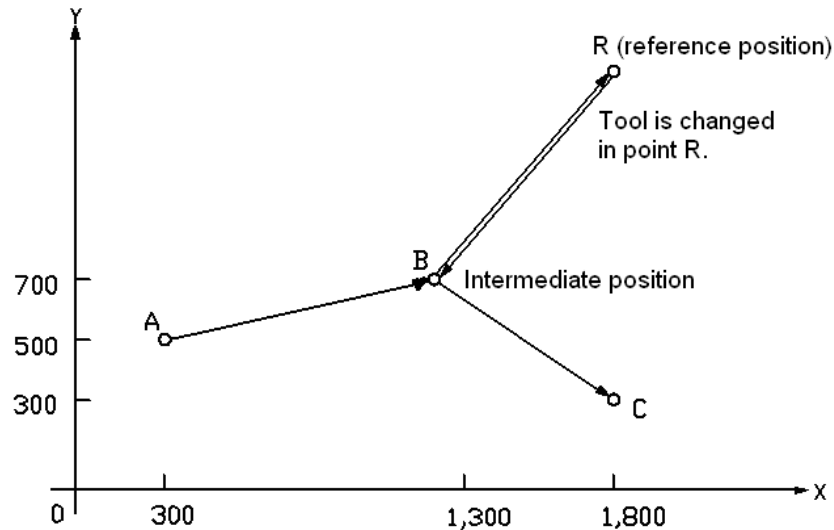

Fig. 3-3-3
3. In G29 command format, the parameters X, Y and Z can be selected to specify the destination position for return from the reference position, such as point C in Fig. 3-3-3, and it can be indicated by the absolute or the incremental command. About the incremental programming, the commanded value specifies the incremental value away from the intermediate point. When some axes aren't specified, it means the relative intermediate point in the axis doesn't have any move amount. After G29, only the command with one axis returns independently, and other axes remains still.
See Fig. 3-3-3: